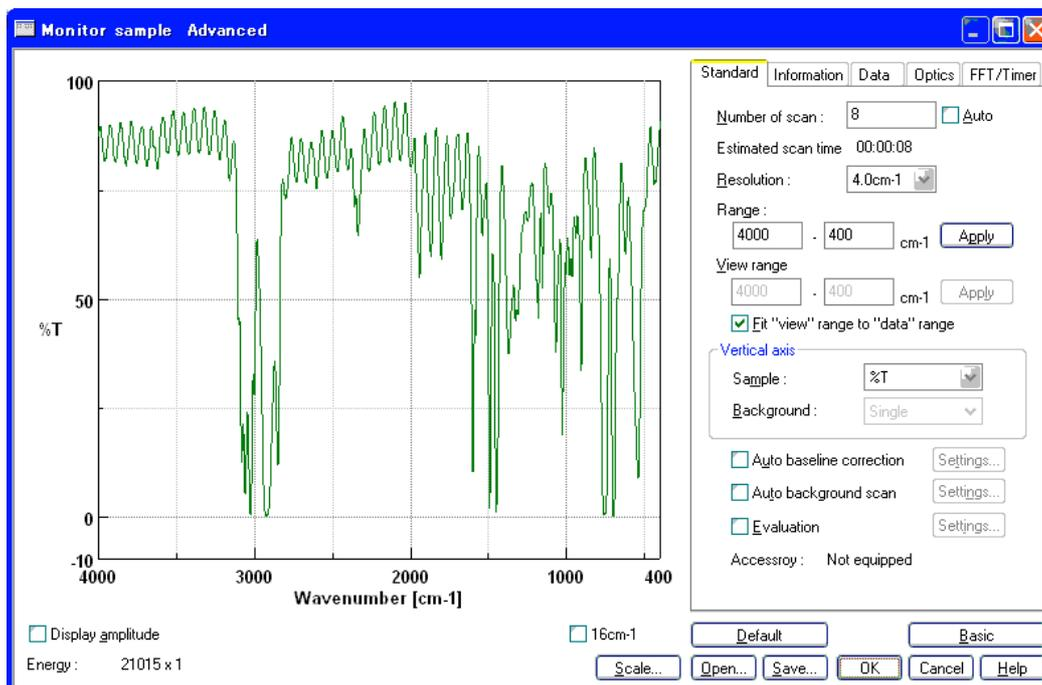

Fig.2.22 [Monitor Sample] window
- (1) Select [Monitor Sample] from the [Measure] menu of the Spectra Measurement program. The [Monitor Sample] window opens. (Fig. 2.22)